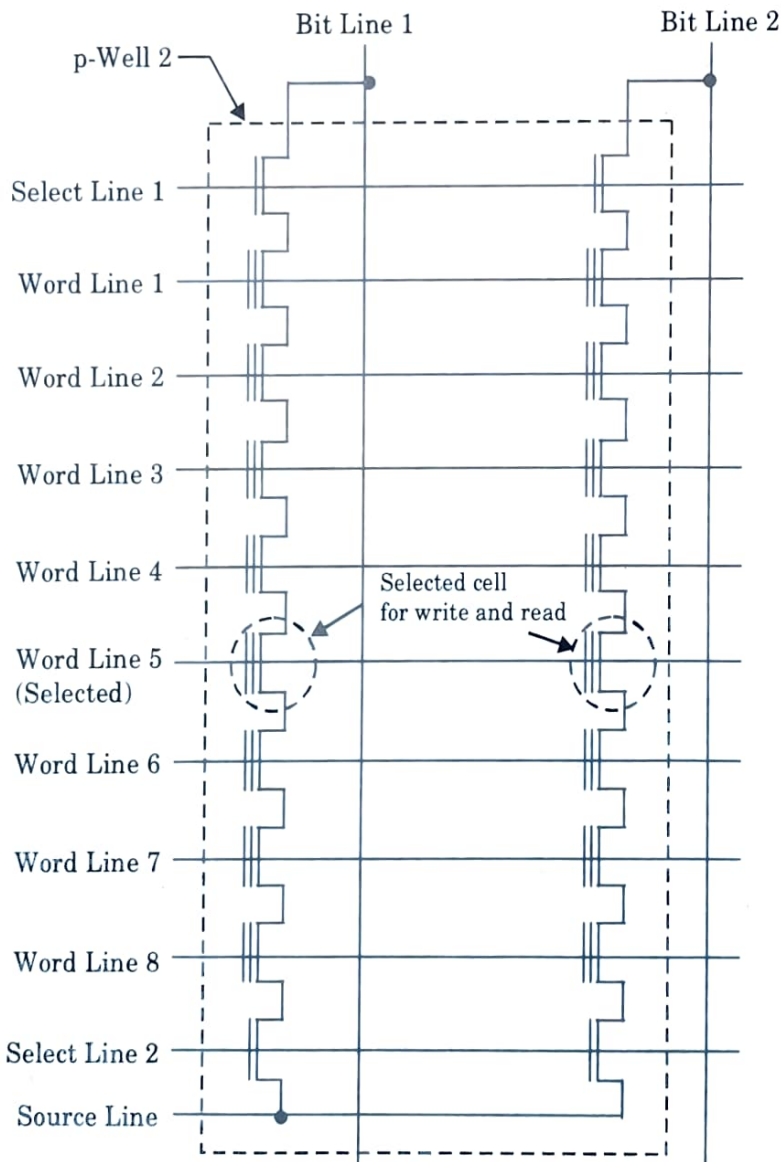

Fig. 4.8.1.
- By placing eight or sixteen cells in series, the memory cell area can be reduced by the elimination of contacts in cells. The equivalent circuit of the eight bit NAND cell structure is shown in Fig. 4.8.1.